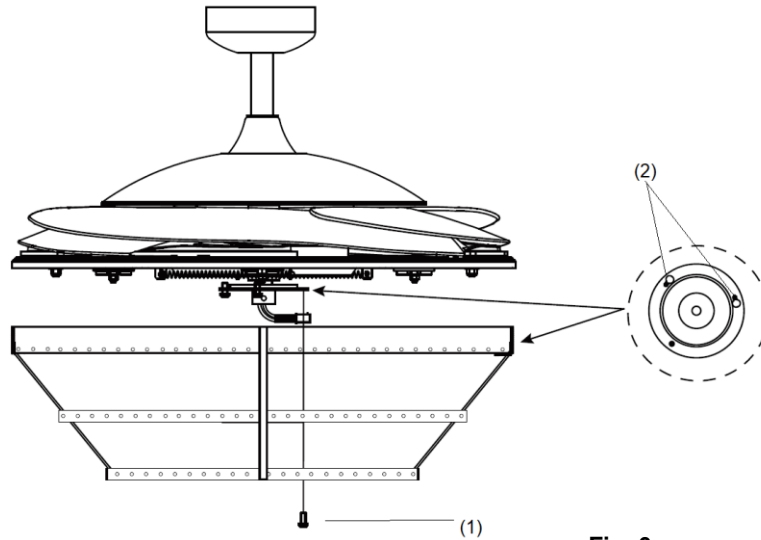

Fig. 6
LIGHT KIT INSTALLATION (Fig. 6 & 7)
1. Loosen the screw (1) from the fan bracket. Align the two slot screws with the keyhole slots (2) of the light kit bracket. (Fig. 6)
2. Turn the light kit bracket counterclockwise until the slot screws are firmly at the end of the slots (2).
3. Secure screw (1) to the lamp shade bracket. Tighten all three screws. Do not over-tighten.